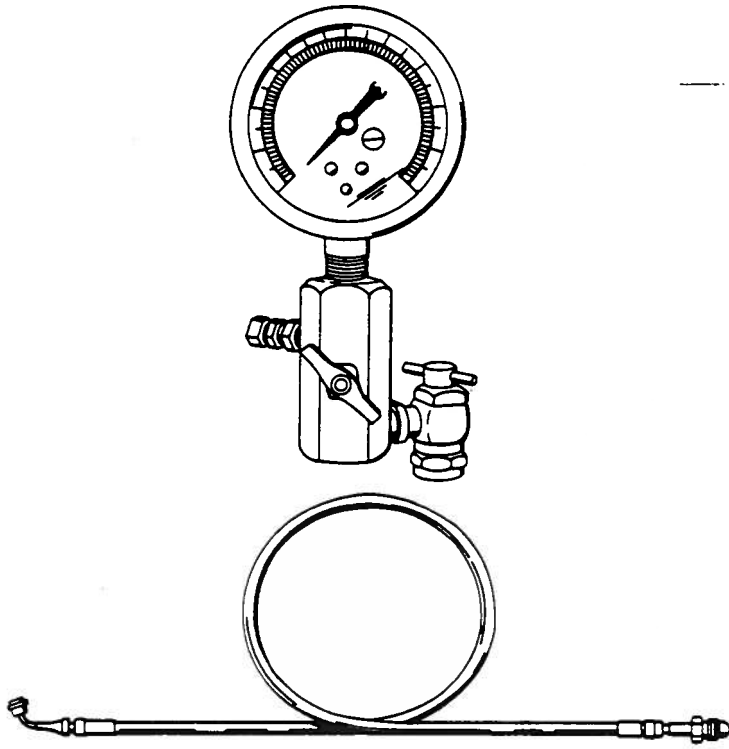

Figure 8-3. Charging Hose and Gage Assembly
- b. Install charging hose and gage assembly (figure 8-3) to gas valve.